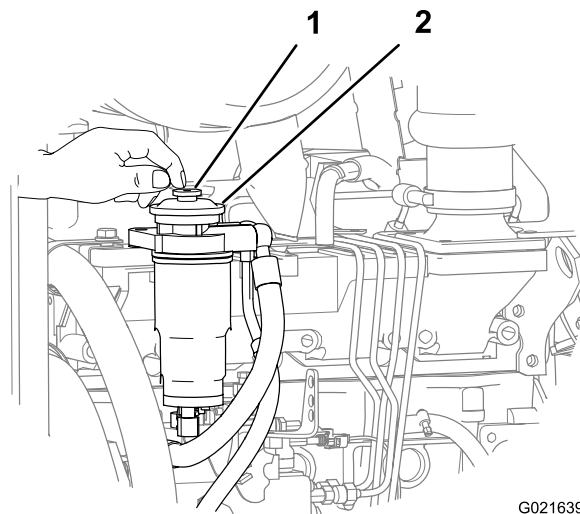

Figure 57
4. Locate the priming button on the top of the filter adapter for the secondary fuel filter (Figure 57).
5. Press down and release the priming button repeatedly until you feel resistance (Figure 57).